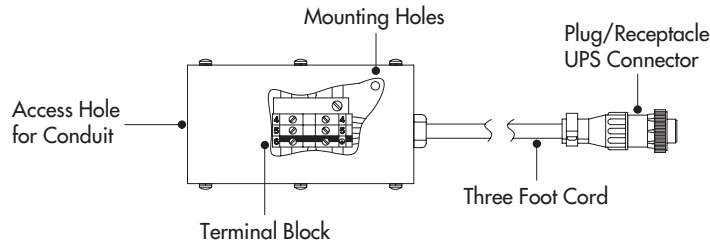

Figure 10. REPO Cord Junction Box
- 1** Place the conduit through the access hole on the junction box (see Figure 10). Connect the exposed conduit wires to the corresponding compression terminals (see the following table). Tighten the compression terminals with a screwdriver.